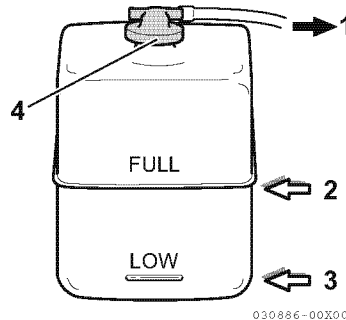

Figure 12
5. Check the coolant level in the reservoir. The level should be at the FULL mark (**Figure 12, (2)**). Add coolant if necessary.
6. Remove reservoir cap (**Figure 12, (4)**) to add coolant if necessary. Do not add water.
8. Check the rubber hose (**Figure 12, (1)**) connecting the reservoir to coolant tank / heat exchanger. Replace if damaged.